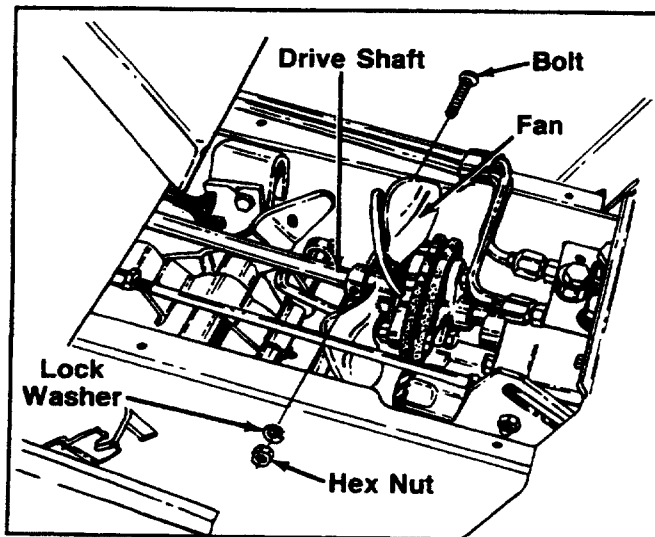

FIGURE 4.
3. Remove the drive shaft, by removing the bolt, lock washer and hex nut holding the fan to shaft. See figure 4.